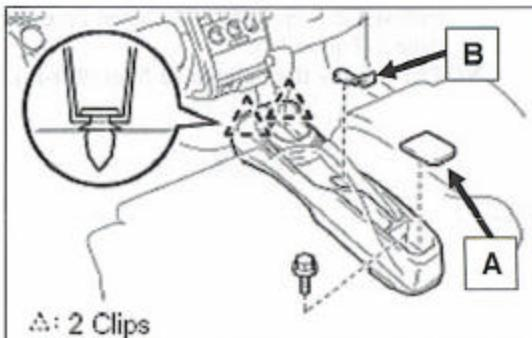

Figure 14
8. Replace the console assembly and press the 2 clips back in place (Figure 14).
9. Replace the screw removed in Step 4 of the Removal Procedure on Page 1 (Figure 14).
10. Replace the carpet removed in Step 3 of the Removal Procedure on Page 1 (A, Figure 14).
11. Replace the trim piece removed in Step 2 of the Removal Procedure on Page 1 (B, Figure 14).